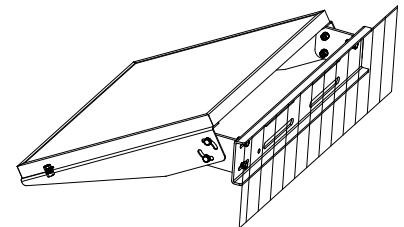

figure 2
Step3. Place PV module and mount assembly on mounting surface in the exact place to be installed. See **figure 2**. Use at least 4 fastening points. Use four M8 bolts, washers, lock washers and nuts if possible. Otherwise use wood screws, sheet metal screws, anchors, or molly belts (not included).